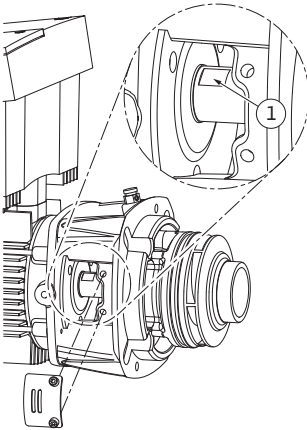

Fig. 51: Wrench flats on the shaft
15. Put an open-end wrench (22 mm is the best width across flats) into the lantern window and hold the shaft steady with the wrench surfaces (Fig. 51, Item 1). Unbolt the impeller nut (Fig. 7, Item 15). The impeller (Fig. 7, Item 16) is automatically pulled off the shaft.
24. During assembly of the impeller put an open-end wrench (22 mm is the best width across flats) into the lantern window and hold the shaft steady with the wrench surfaces (Fig. 51, Item 1).